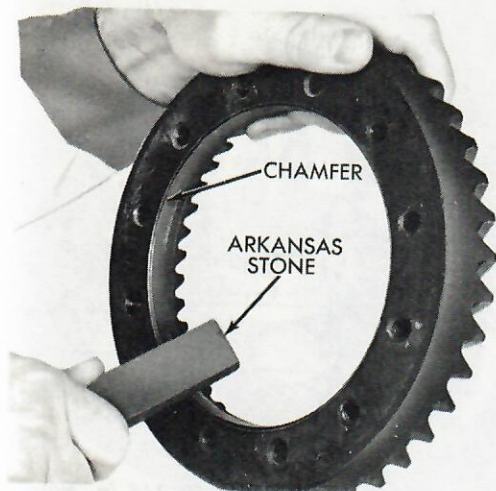

Fig. 23 Stoning Chamfer of Ring Gear
(6) While keeping all of these parts in proper alignment, push pinion shaft into case until locking pin hole in pinion shaft is in exact alignment with its respective hole in case. Install pinion shaft lock pin through hole in case from pinion shaft side of drive gear flange. **The contacting surfaces of the drive gear and differential case flange must be clean and free of all burrs.**
(7) Using an Arkansas stone, relieve the sharp edge of the chamfer on the inside diameter of the ring gear (Fig. 23). **This is very important otherwise during the installation of ring gear on differential case, the sharp edge will remove metal from the pilot diameter of case and can get imbedded between differential case flange and gear; causing gear not to seat properly.**